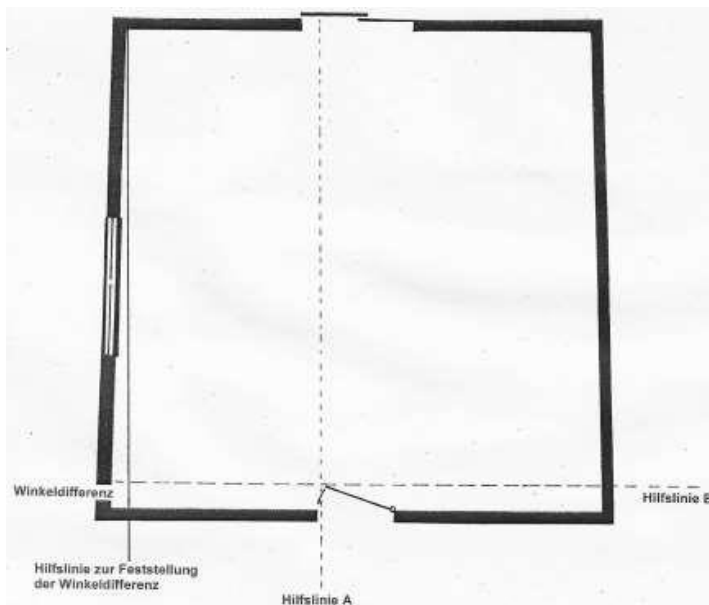

Fig. 03: Laying Planning
- This auxiliary line visibly shows the difference in case of an existing angle difference. Now move this auxiliary line parallel to it as auxiliary line A into the room at a distance of several tile measurements. (Fig. 03 + 04).
- To make work easier, make another auxiliary line, the auxiliary line B, which marks the right angle to the guide line A. It indicates where the first row of tiles ends so that you can continue to cover the room from there (Fig. 03).